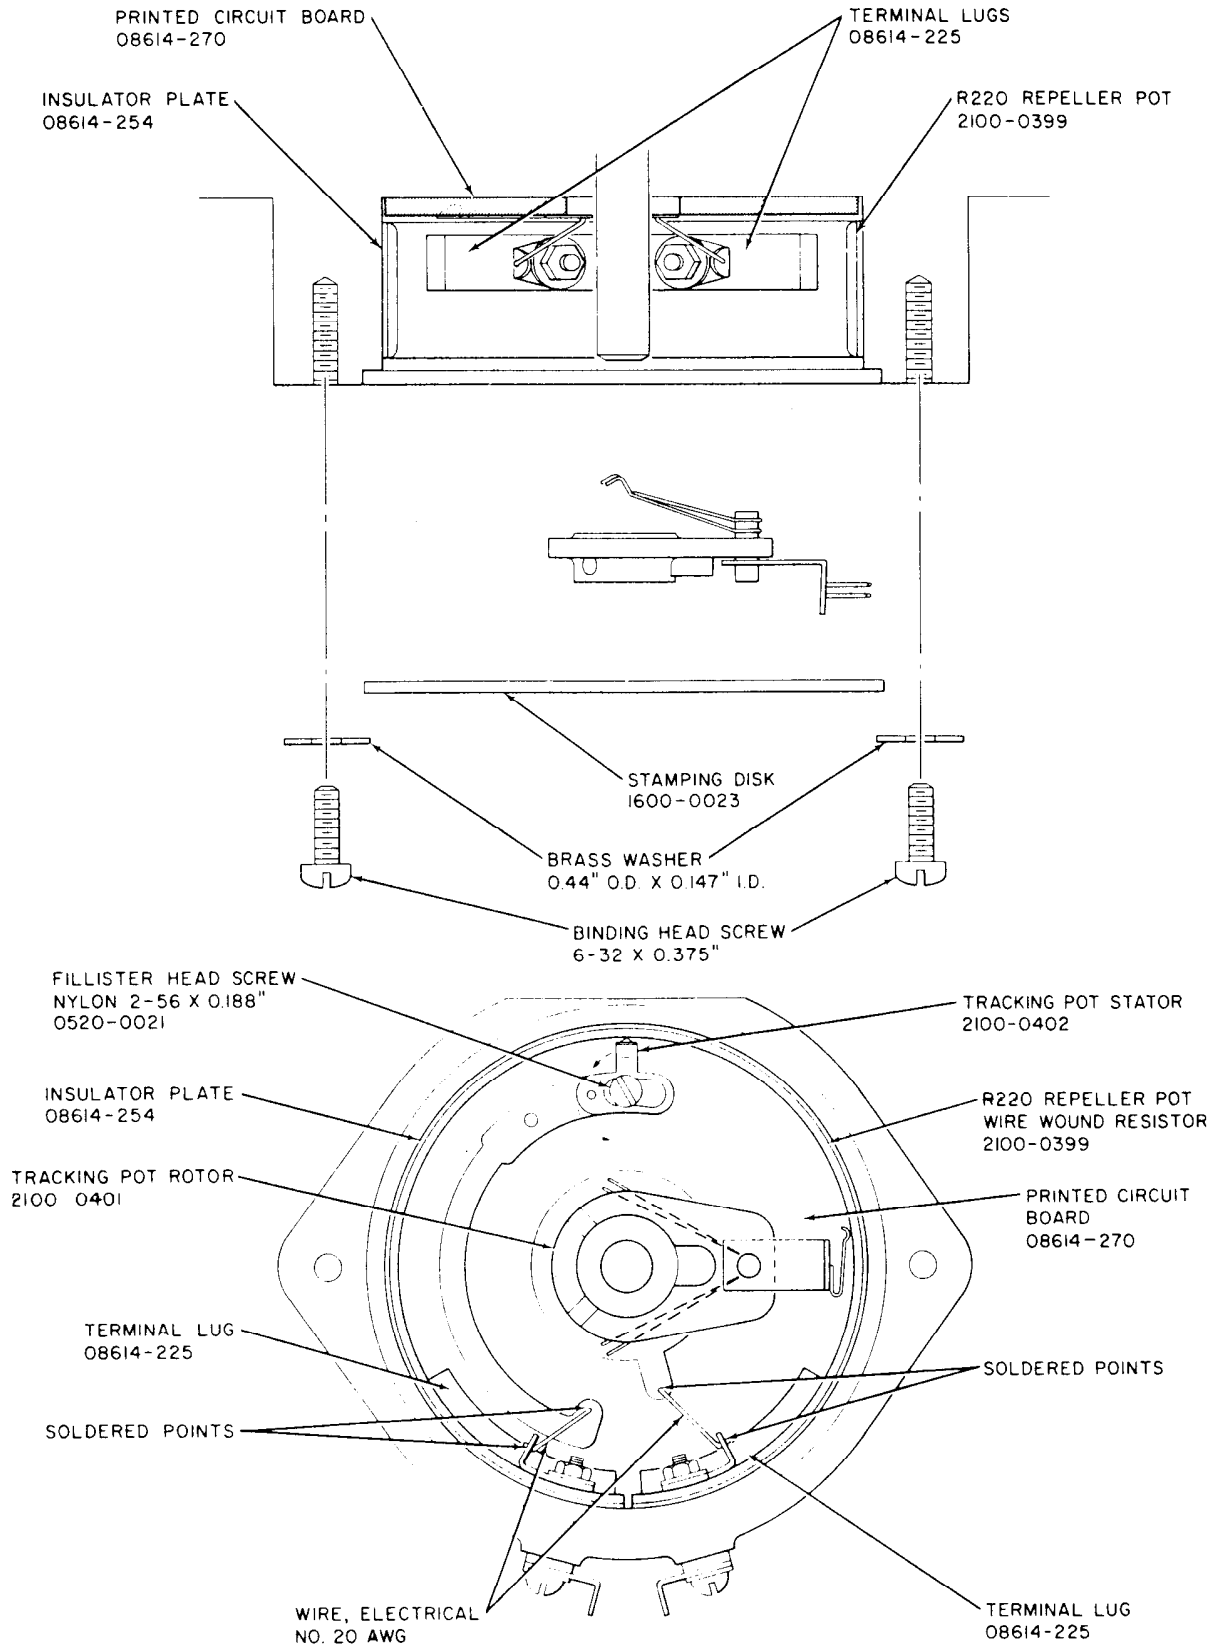

Figure 5-17. Repeller Pot Assembly
5-75. If it is necessary to replace the repeller pot (R220, a wirewound resistor), then both R220 (HP Part No. 2100-0399) and the insulator plate (HP Part No. 08614-254) must be replaced. Use Figure 5-7 as a location guide and Figures 5-17 and 5-18 as replacement guides and proceed as follows:
- i. Refer to Figure 5-17; R220 must be relatively flat against wall of casting. The resistor can be flattened against casting wall by pushing on edge, CAREFULLY, and tightening in place.
- j. Once R220 has been adjusted for flatness and the retaining screws firmly tightened, replace tracking pot rotor in assembly. The tracking pot rotor must be set in place so that contact is made with inner printed circuit board ring at all times. Also, the rotor contact with resistor must be uniform with contact made as illustrated in Figure 5-17; only the curved end of the contacts may touch the repeller pot at any point.
- k. Using a flat blade screwdriver to turn the nylon screw, turn tracking pot stator back to original contacting position as illustrated in Figure 5-17.
- m. Set FREQUENCY (MC) front panel dial to 1600 and note position of repeller tracking pot rotor: the tracking pot rotor resistor contacts